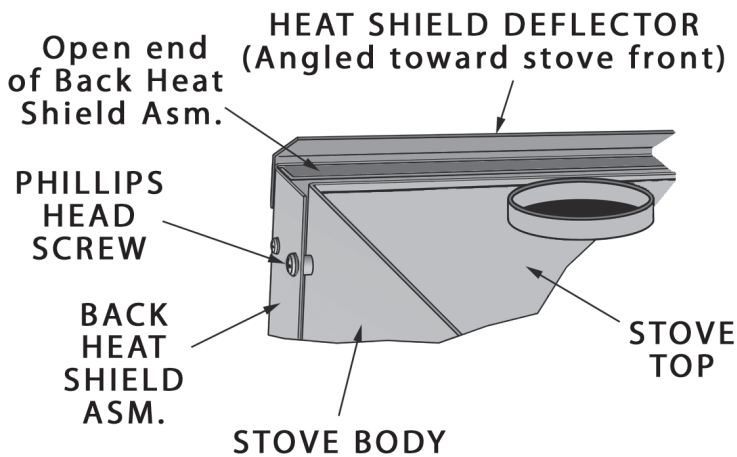

Fig. 3 – Back Heat Shield and Deflector Assembly (top view)
8. Attach the back heat shield assembly (#2) to the rear of the stove. The closed end is positioned to the bottom of the stove with the open end up, fig. 3. Secure the back heat shield with four Phillips head machine screws using the threaded holes located in the rear side corners of the stove.